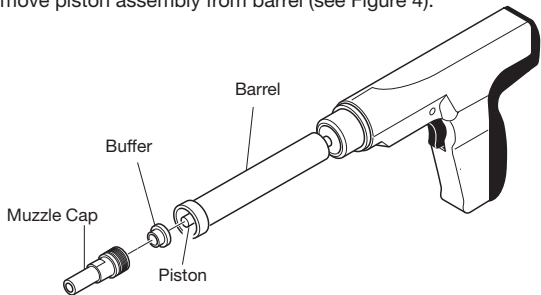

Figure 3 - Separating Barrel Assembly from Housing
- Pull buffer out of muzzle cap (see Figure 3).